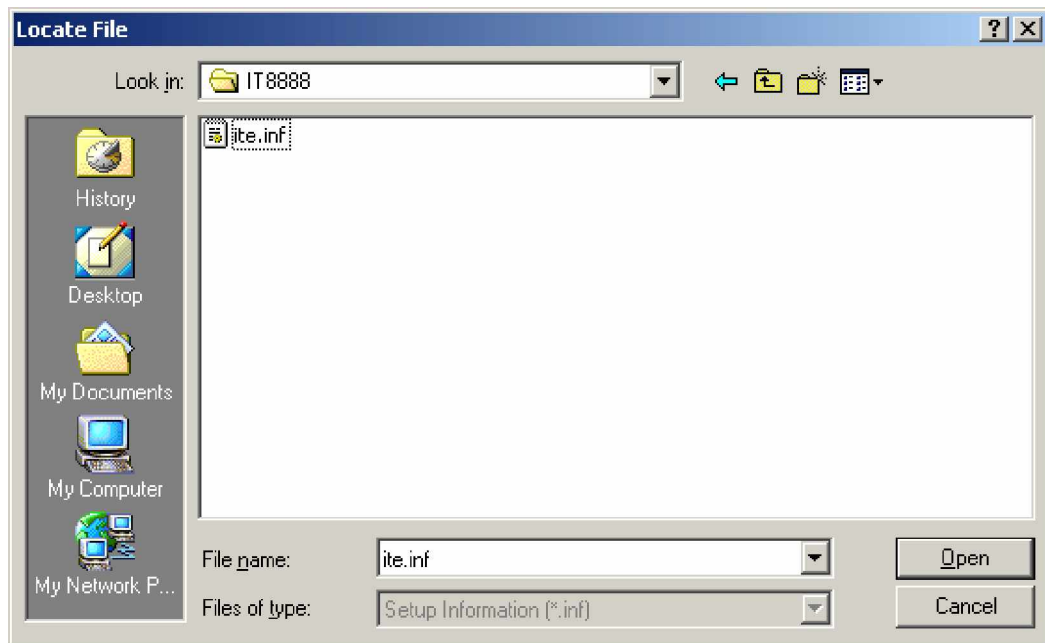

Figure 6-37: Location Browsing Window
Step 8: Select "X:\IT8888" directory in the location browsing window, where "X:\:" is the system CD drive (**Figure 6-37**).